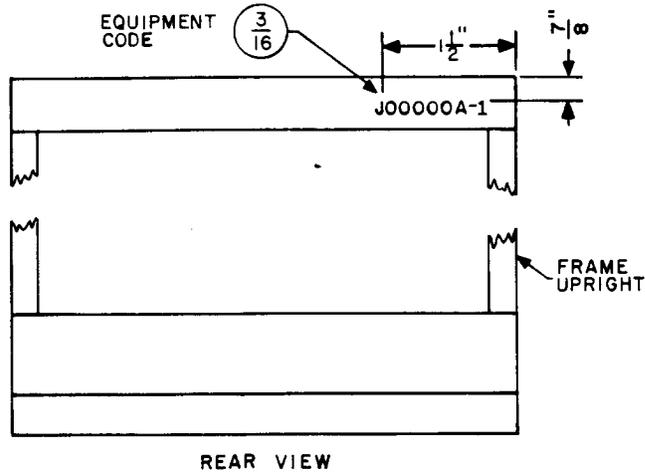

Fig. 1 - Frame Equipment Code
2.13 Equipment code designations shall be stamped horizontally with 3/16-inch characters on the right of the top cross channel as viewed from the rear. (See Fig. 1.)